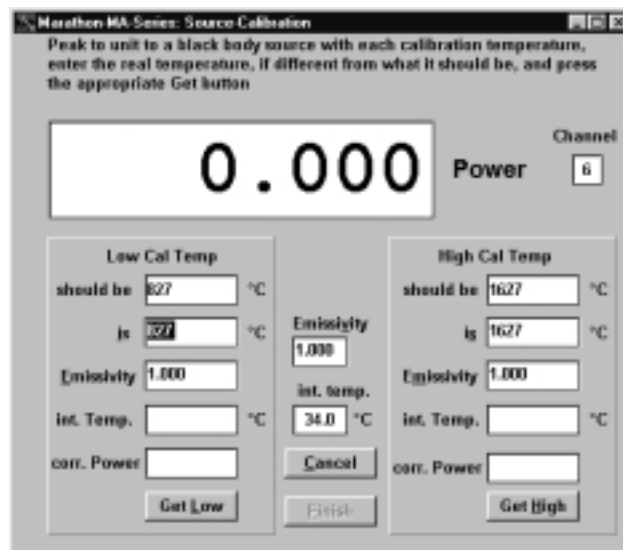

Figure D-15: Factory Style Calibration Screen
2. A screen similar to Figure D-15, displays. Follow the onscreen directions.